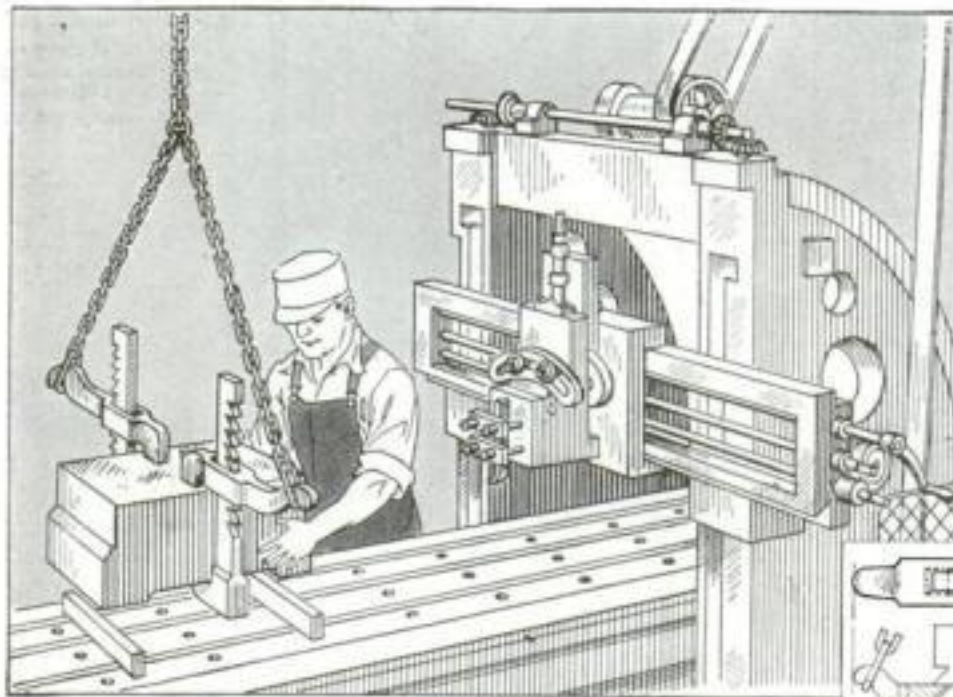

Fig. 1. A foolproof lifting rig that can be readily adjusted to fit any size casting within reasonable limits.
**N**O KNOWLEDGE of chain hitches, bends, or complicated knots are needed in attaching the safe, positive-acting lifting rig for heavy work illustrated in Figs. 1 and 2. Once the adjustable arms are placed and the weight of the casting is put on the rig, it will not let go until the weight of the work is removed. For the shop where heavy castings are handled, such a rig proves almost indispensable.